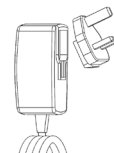

Figure No. 3 - Power Supply
- Charger - supplied with a selection of adaptors for use in multiple countries (Figure No. 3)